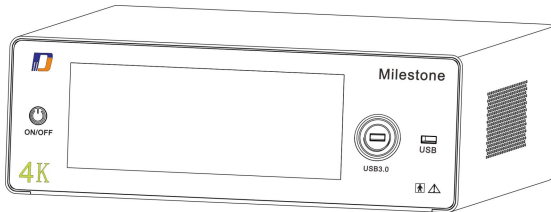

Figure 1: External View Schematic
- b. The Milestone Image Processing Platform mainly consists of the Milestone control unit, connection cables, and power cable. For specific details, refer to Figure 1: External View Schematic.